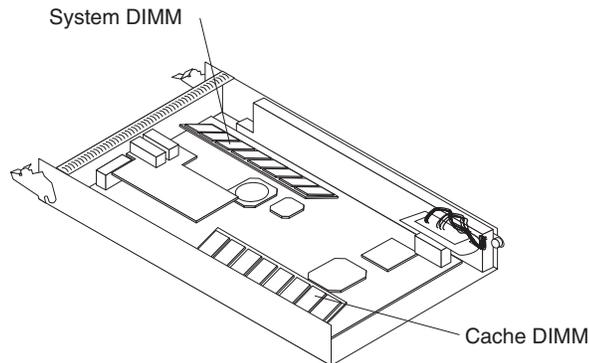

Figure 27. Cache and system DIMM locations
- a. Open the retaining clip on each end of the DIMM connector. Figure 27 shows the cache and system DIMMs.